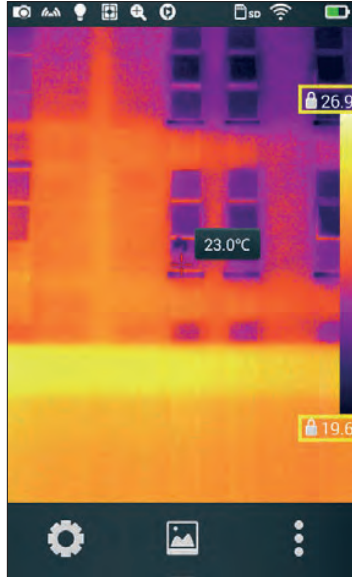
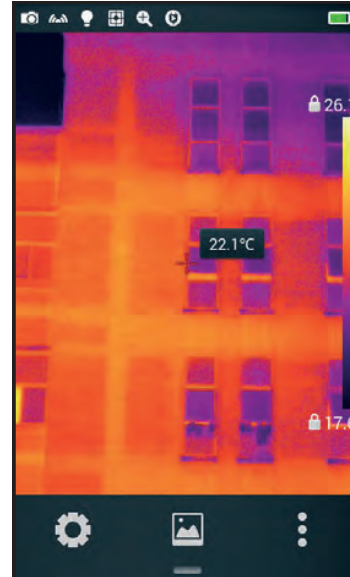

Fig.1
Fig.2
1. On the real-time imaging interface, click the temperature data area at top or bottom of the color palette (the yellow box area as shown in Fig. 1), to enter the "manual dimming mode", and lock the dimming parameters (as shown in Fig. 2).